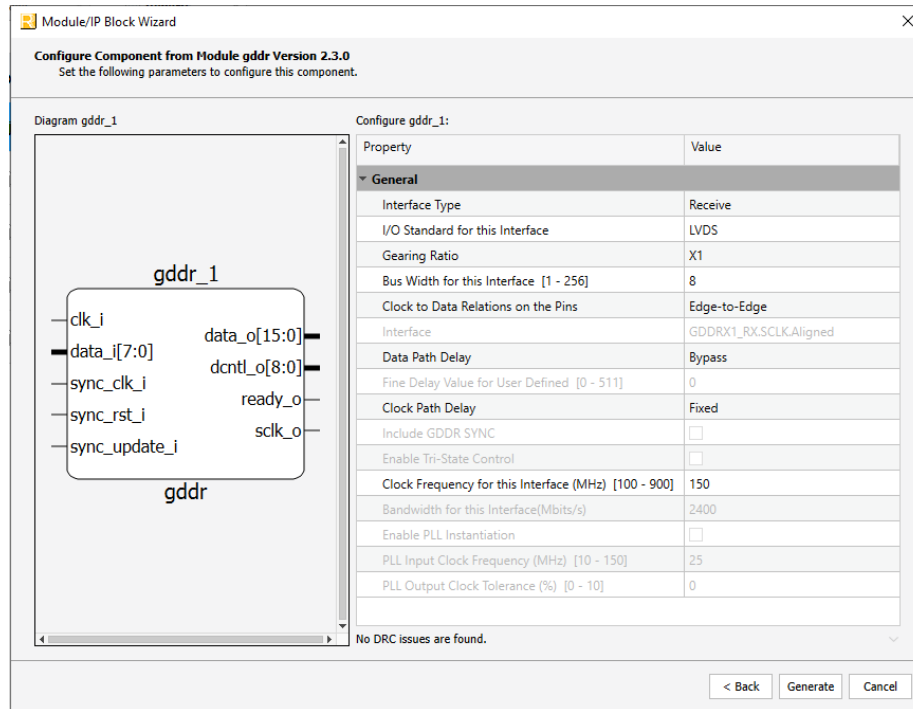
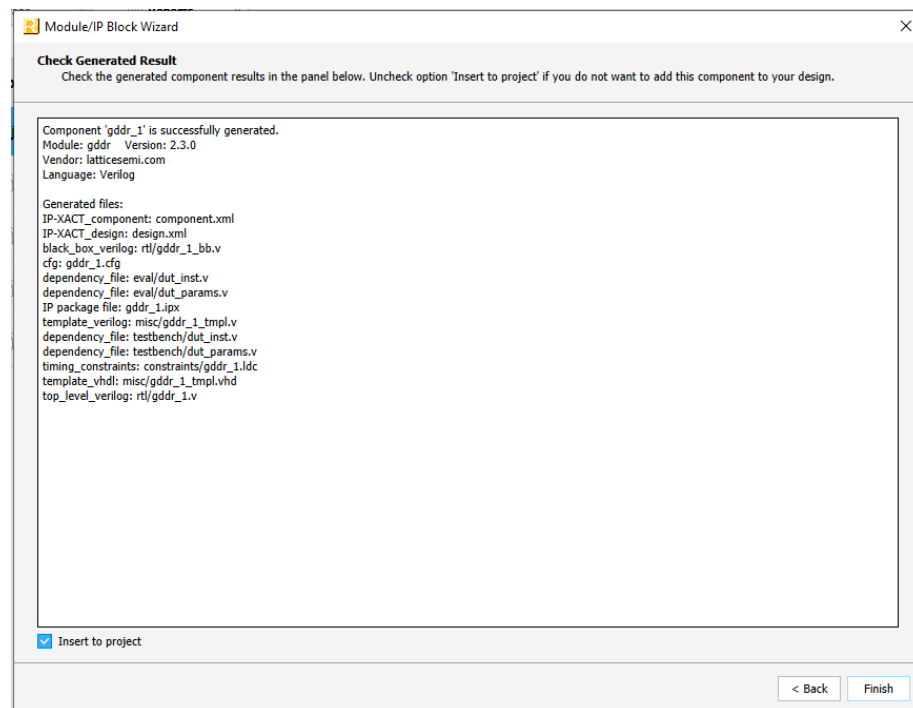

Figure 3.2. Configure Block of GDDR I/O Module
Figure 3.3. Check Generated Result
2. In the module’s dialog box of the **Module/IP Block Wizard** window, customize the selected GDDR I/O Module using drop-down menus and check boxes. As a sample configuration, see Figure 3.2. For configuration options, see the Attribute Summary section.
- Click **Generate**. The **Check Generated Result** dialog box opens, showing design block messages and results, as shown in Figure 3.3.
IP Generation, Simulation, and Validation	<ul style="list-style-type: none"> Updated Figure 3.1. Module/IP Block Wizard, Figure 3.2. Configure Block of GDDR I/O Module, and Figure 3.3. Check Generated Result. <p>In Table 3.1. Generated File List, newly added the eval/constraints.pdc attribute.</p> <ul style="list-style-type: none"> Newly added the Constraining the IP section.